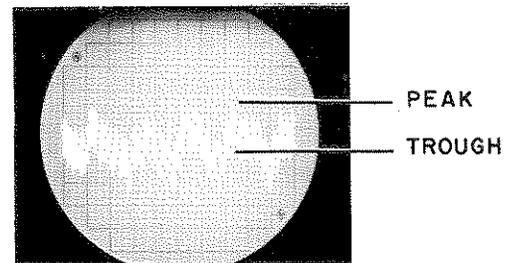

Figure 4-7. Typical Incidental FM Waveform
- 20. Oscilloscope indication should be less than 10 mV peak-to-trough (1 kHz) as shown in Figure 4-7.